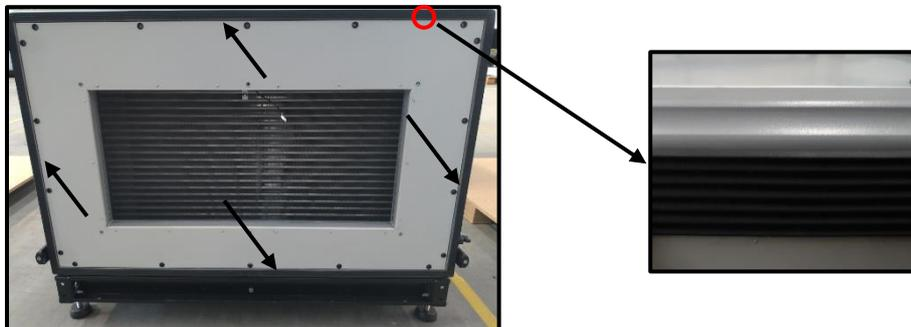

Fig. 96
1. Apply sealing strip to the surface where the module will be connected with the device (Fig. 96)